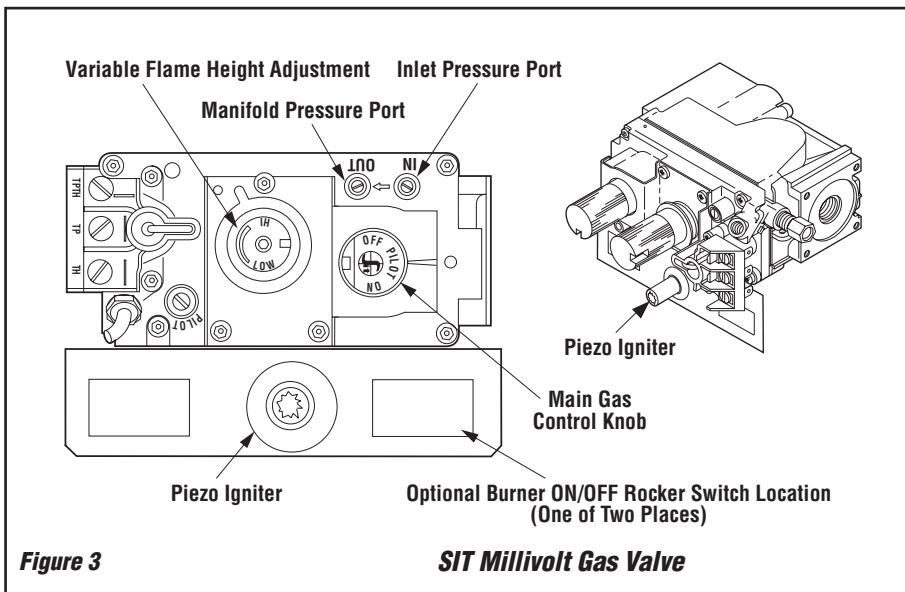

Figure 3
Millivolt appliances will be fitted with the gas control valve shown in **Figure 3 on Page 5**.
To light millivolt appliances refer to the detailed lighting instructions found on **Page 20 (English) and Page 21 (French)**. **Millivolt appliance lighting instructions may also be found on the pull-out lighting instruction labels attached to the gas control valve.** Refer to **Figure 3 on Page 5** for the location of the piezo Igniter.
1. All Millivolt appliances are equipped with a variable gas control valve. Flame height for these models may be adjusted through a range between fixed low and high settings, alternately, while the appliance is in operation. Adjust the flame height as desired after lighting the appliance by rotating the variable adjustment control knob located on the front of the valve (**refer to Figure 3**).